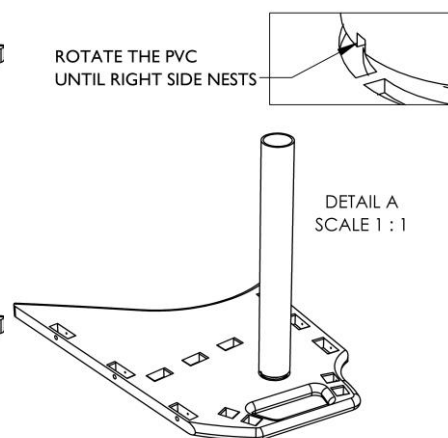

Figure 14
- 2.8) Nest the right side on top and use a dead blow hammer or long clamp as necessary to ensure the frame is tightly assembled. Rotate the shaft cover so the right frame is seated as shown in detail in Figure 14.